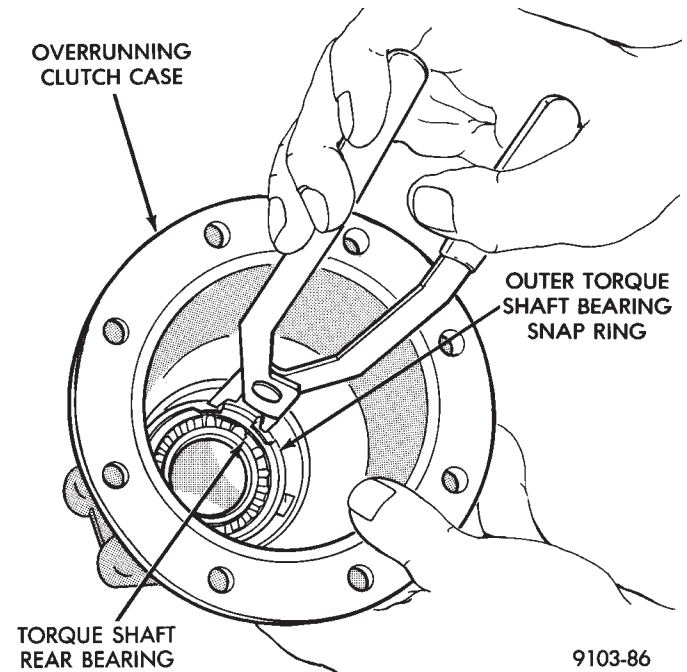
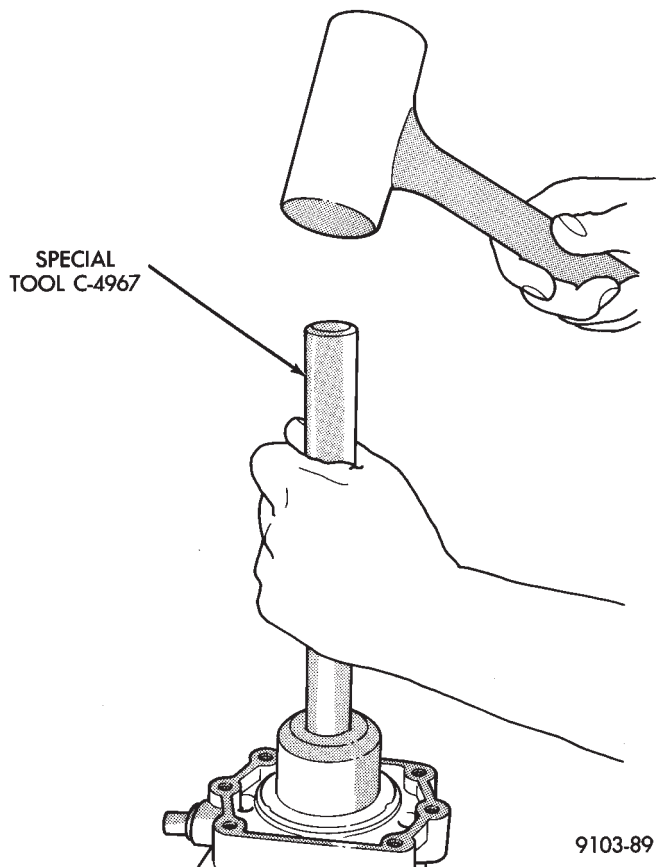

Fig. 15 Torque Shaft Rear Bearing Snap Ring
Fig. 16 Seal Removal
- (14) Remove rear torque shaft bearing retaining outer snap ring in overrunning clutch case (Fig. 15).
- (15) Remove rear torque shaft bearing.
- (16) Drive out seal with special tool C-4967 (Fig. 16)